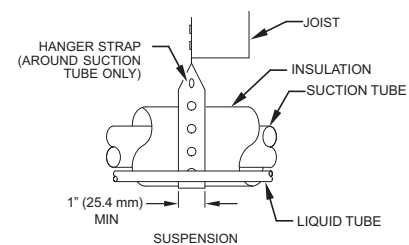

Fig. 1 – Connecting Tubing Installation
5. When passing refrigerant tubes through the wall, seal opening with RTV or other pliable silicon-based caulk (see Fig. 1).
7. Do not suspend refrigerant tubing from joists and studs with a rigid wire or strap which comes in direct contact with tubing (see Fig. 1).
9. When necessary, use hanger straps which are 1 in. wide and conform to shape of tubing insulation (see Fig. 1).